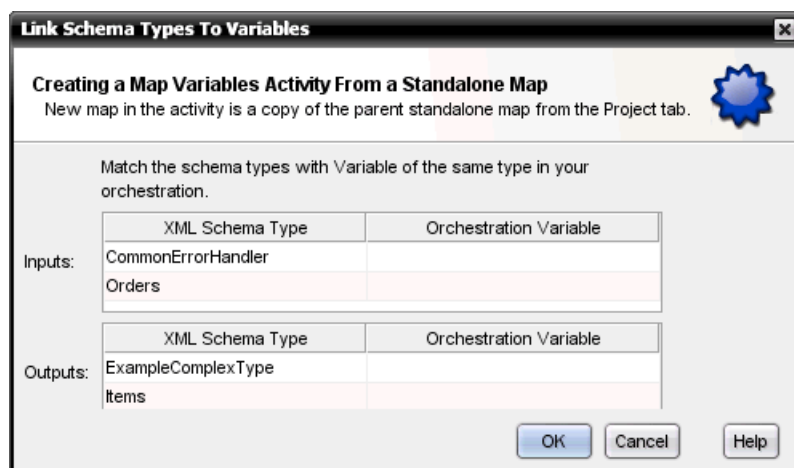

Figure 3-99 The Link Schema Types To Variables window
- The Link Schema Types To Variables window shown in Figure 3-99 opens. Use the drop-down boxes in the Orchestration Variables column to select existing variables of the correct data types that are used by the Map Variables activity that is created, and then click **OK**.